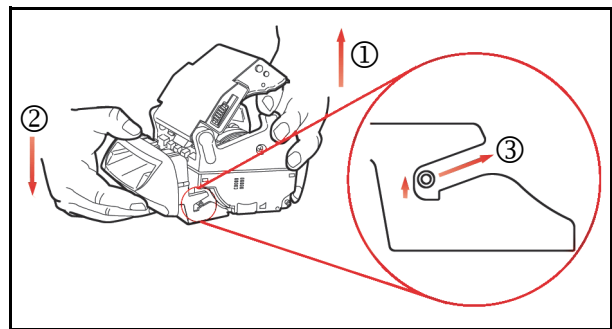

Figure 2-3 Removing the Taiko Bezel
3. Hold the Taiko™ Unit by placing your hand under the Upper Lid (See Figure 2-3 ①).
4. Slightly press down on the Bezel and raise the rear Taiko™ Unit body (See Figure 2-3 ②).
5. Slide the body back and up to detach it from the Bezel section (See Figure 2-3 ③).
2. Remove the Taiko™ Unit body from the mounted Bezel Section (review removal instruction shown in Figure 2-3 on page 2-1 of this Section).